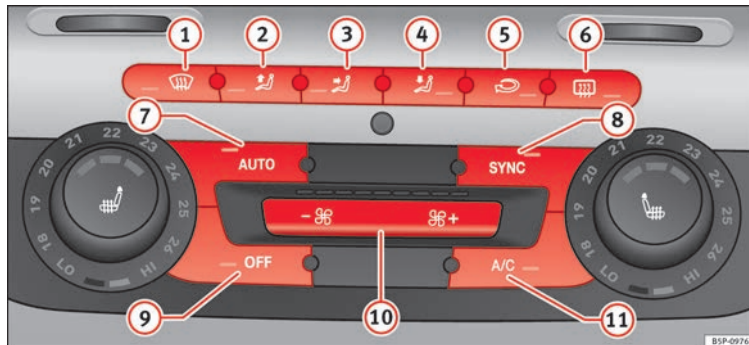

Fig. 117 On the dash panel: 2C Climatronic controls.
» **Fig. 117** to adjust the temperature on the left-hand or right-hand side respectively.
- Press the **AUTO** » **Fig. 117** button. “AUTO High” is shown on the radio display (high fan speed).
- Press the **AUTO** button again » **Fig. 117**. “AUTO Low” is shown on the radio display (low fan speed).